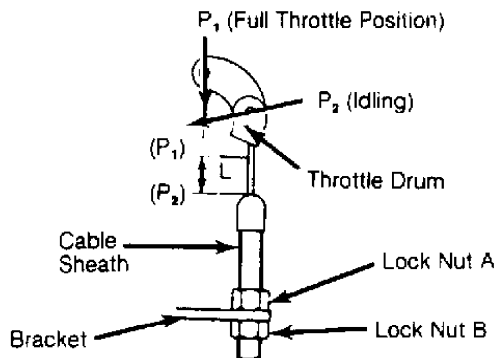

Fig. 1: Adjusting Throttle Cable (Sentra Shown; Others Similar)
2) Turn lock nut "B" so it just contacts bracket. Turn lock nut "B" specified number of turns AWAY from bracket. See Fig. 1. See THROTTLE CABLE LOCK NUT SPECIFICATIONS table.